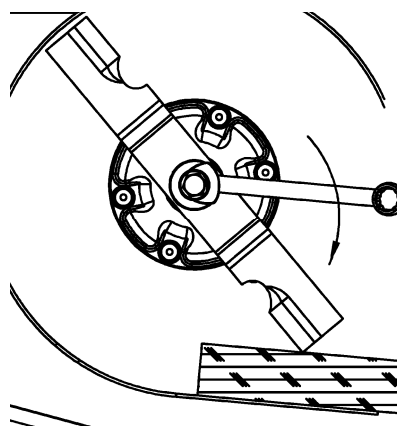

Fig. 15
- Use a block of wood to prevent the mower blade from turning. (Refer to Fig. 15)